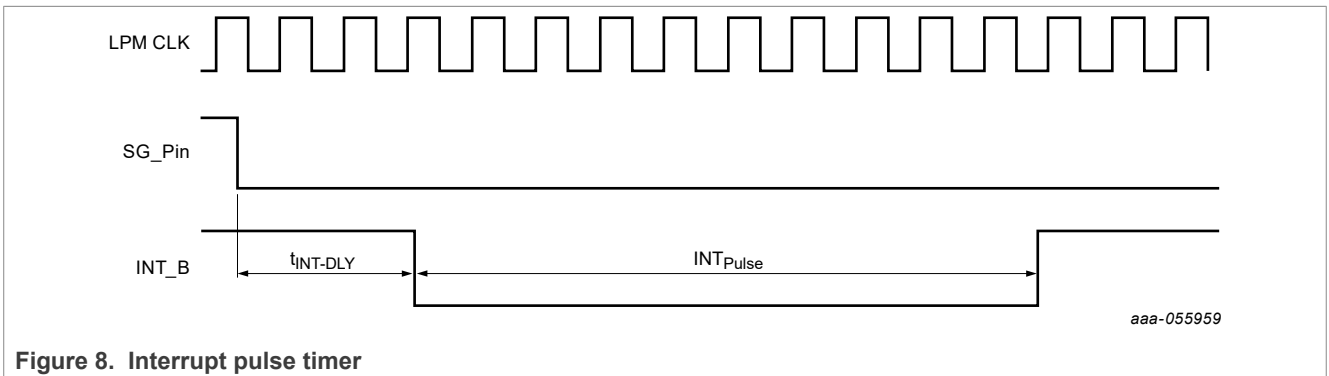

Figure 8. Interrupt pulse timer
| t_{SCK} | SCLK Period • Figure 8 - 1 | 160 | — | — | ns | |
| t_{LEAD} | Enable Lead Time • Figure 8 - 2 | 140 | — | — | ns | |
| t_{LAG} | Enable Lag Time • Figure 8 - 3 | 50 | — | — | ns | |
| t_{SCKHS} | SCLK High Time • Figure 8 - 4 | 56 | — | — | ns | |
| t_{SCKLS} | SCLK Low Time • Figure 8 - 5 | 56 | — | — | ns | |
| t_{SUS} | MOSI Input Setup Time • Figure 8 - 6 | 16 | — | — | ns | |
| t_{HS} | MOSI Input Hold Time • Figure 8 - 7 | 20 | — | — | ns | |
| t_{A} | MISO Access Time • Figure 8 - 8 | — | — | 116 | ns | |
| t_{DIS} | MISO Disable Time ⁽²⁵⁾ • Figure 8 - 9 | — | — | 100 | ns | |
| t_{VS} | MISO Output Valid Time • Figure 8 - 10 | — | — | 116 | ns | |
| t_{HO} | MISO Output Hold Time (No cap on MISO) • Figure 8 - 11 | 20 | — | — | ns | |
| t_{RO} | Rise Time • Figure 8 - 12 | — | — | 30 | ns | (1) |
| t_{FO} | Fall Time • Figure 8 - 13 | — | — | 30 | ns | (1) |
| t_{CSN} | CS_B Negated Time • Figure 8 - 14 | 500 | — | — | ns | |